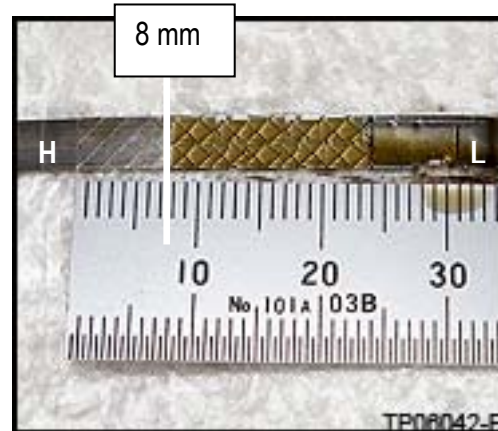

Figure 5
13. **Write down the exact oil level reading using the engine dipstick and ruler** (see Figure 5).
- The example in Figure 5 shows the oil level is 8 mm below the H mark.